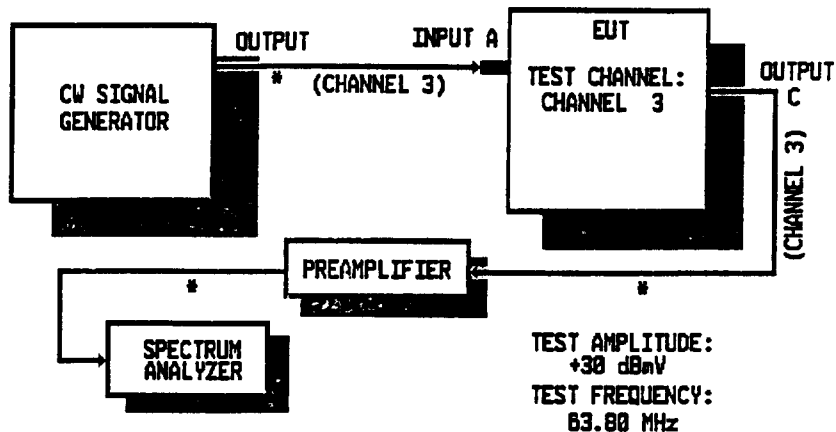

Figure 8
Measure the gain from the EUT output connector through the preamplifier to the spectrum analyzer for the test channel. See Figure 8.
1. Verify that the test system is configured as shown in Figure 8 _____.